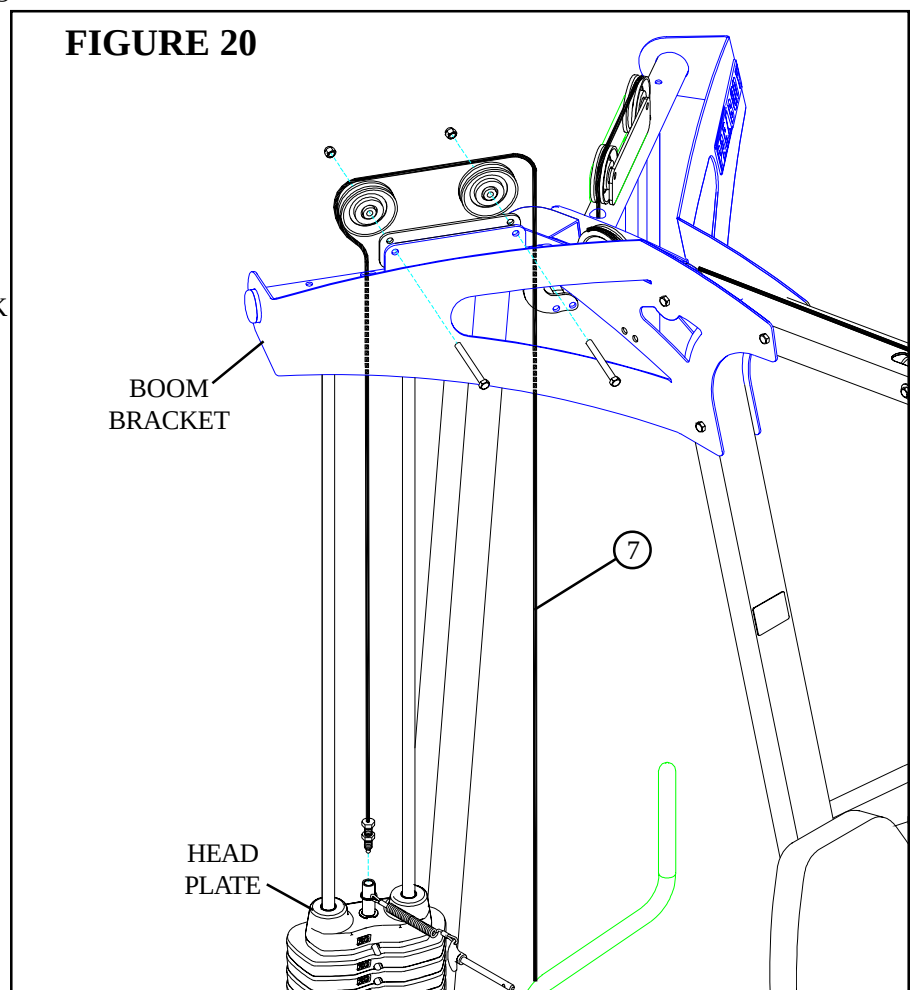

FIGURE 20
- Route the new PRESS STACK CABLE (7) thru the REAR UPRIGHT as shown. **(NOTE: Remove pulleys for ease of installation.)** Slide GUIDE RODS up just enough to get the cable end thru. Push GUIDE RODS down when finished.
- Route the new PRESS STACK CABLE (7) around the pulleys in the BOOM BRACKET using the existing bolts as shown in FIGURE 20. **(NOTE: Make sure the cable runs in the grooves of the pulleys.)**
- Screw the threaded end of the PRESS STACK CABLE (7) into the end of the HEAD PLATE. See FIGURE 20.